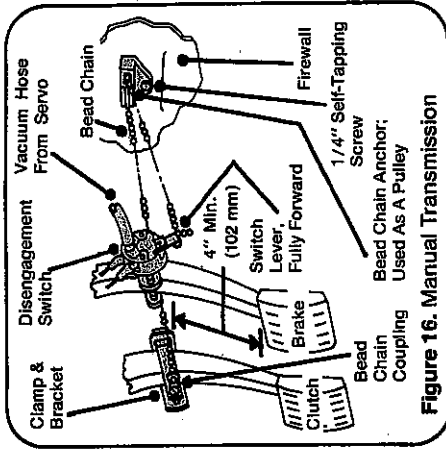

Figure 16. Manual Transmission
- Fasten the bead chain to the pedal directly opposite the disengagement switch mounted on the other pedal lever, using the clamp, bracket bead chain coupling, and a #8-32 screw provided (Figs. 16 & 17).